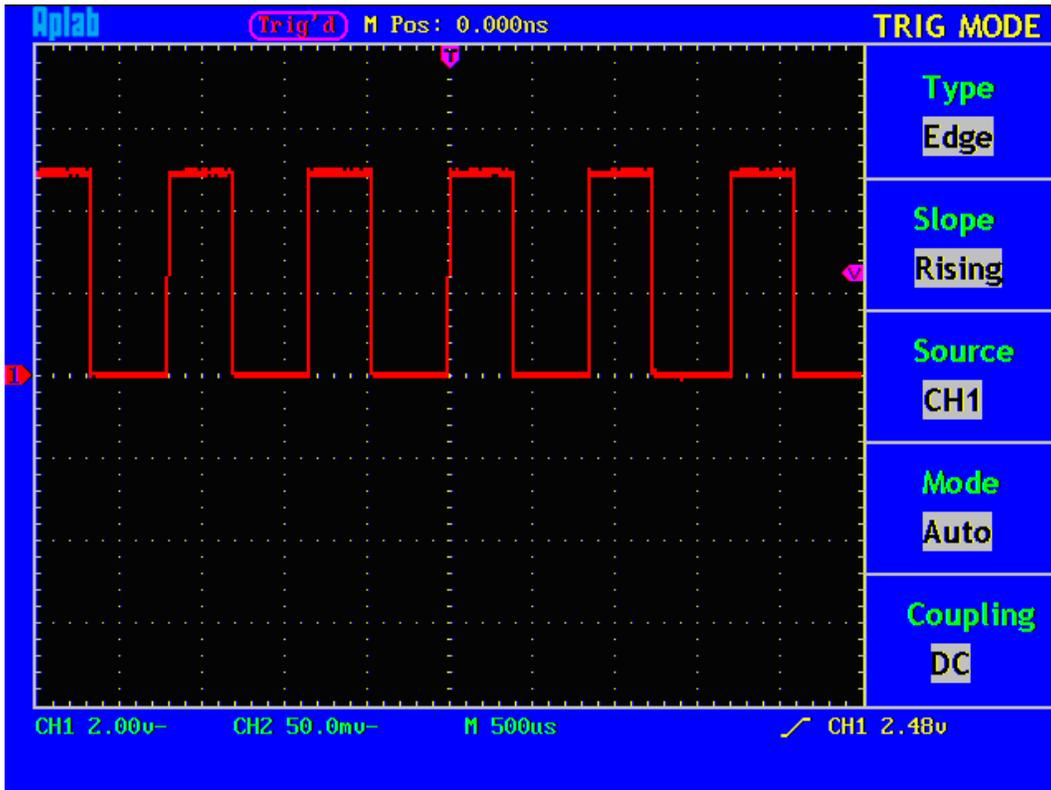

**Fig. 5** Connection of the Probe
1. Set the attenuation coefficient of the probe in the menu as 10X and that of the switch in the probe as 10X, and connect the oscilloscope probe with the CH1 channel. If a probe hook tip is used, ensure that it keeps in close touch with the probe. Connect the probe tip with the signal connector of the probe compensator and connect the reference wire clamp with the ground wire connector of the probe connector, and then press the button AUTOSSET (see Fig. 5).